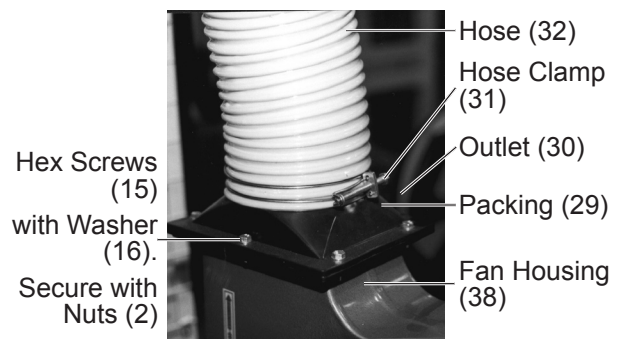
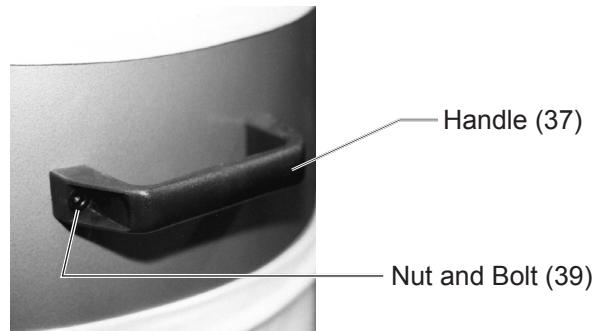

Figure 4
Figure 6
- e. Step 5) Set the Packing (29) on top of the rectangular opening on the Fan Housing (38) (see Step 4). Set the Outlet (30) on top of the Fan Housing (38) and Packing (29)-see Figure 4. Slide Washer (16) onto Hex Screws (15) and thread into the six (6) holes in the lip of Outlet (30), Fan Housing (38) and Packing (29). Secure in place with Nuts (2). (See Figure 4.)
- g. Step 7) Slide the Hose Clamp (31) onto the Hose (32). Slide Hose (32) with Hose Clamp (31) onto the Outlet (30). Once the Hose (32) is in place, tighten the screw on the Hose Clamp (31) until the Hose (32) is securely fastened to the Outlet (30). (See Figure 4.)
- h. Step 8) Slide the Hose Clamp (31) onto the other end of the Hose (32). Slide the top opening of the Hose (32) over the duct in the Collector (33). Tighten the screw on the Hose Clamp (31) until the Hose (32) is securely fastened.
- i. Step 9) Place the Filter Bag (35) on top of the Collector (33). Once the Filter Bag is in place, adjust the clamp so that the clip rests between the teeth. Press the clamp down
- k. Step 11) Attach the Handle (37) to the Collector (33) with Nut and Bolt (39). (See Figure 6.)